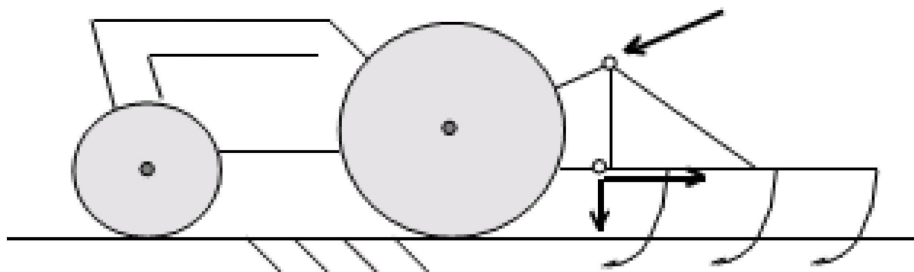

Figure 6.3: Fully mounted, rear three-point linkage hitch.
c) Fully mounted - three point hitch Here the implement is attached to the tractor by means of the three-point linkage as shown in Figure 6.3. In this side view the lower two points are coincident; the upper point is midway between , but above the lower two. This system totally constrains and allows complete control of the implement. It is not free to swing in space like the traile implement, nor in the vertical plane like the semi-mounted; it must operate in the position determined for it by the linkage. The exception to this statement is that the implement is usually free to rise, ie, it is not held down by the linkage. If it does rise, it will be due to the upward soil forces being greater than implement weight; it will, however, move in a way determined by the kinematics of the linkage. In the vertical longitudinal plane (Figure 6.3) the linkage has the form of a mechanism known as a 'four link chain', the characteristics of which are treated in books on kinematics. We can identify the four links as shown in Figure 6.4: